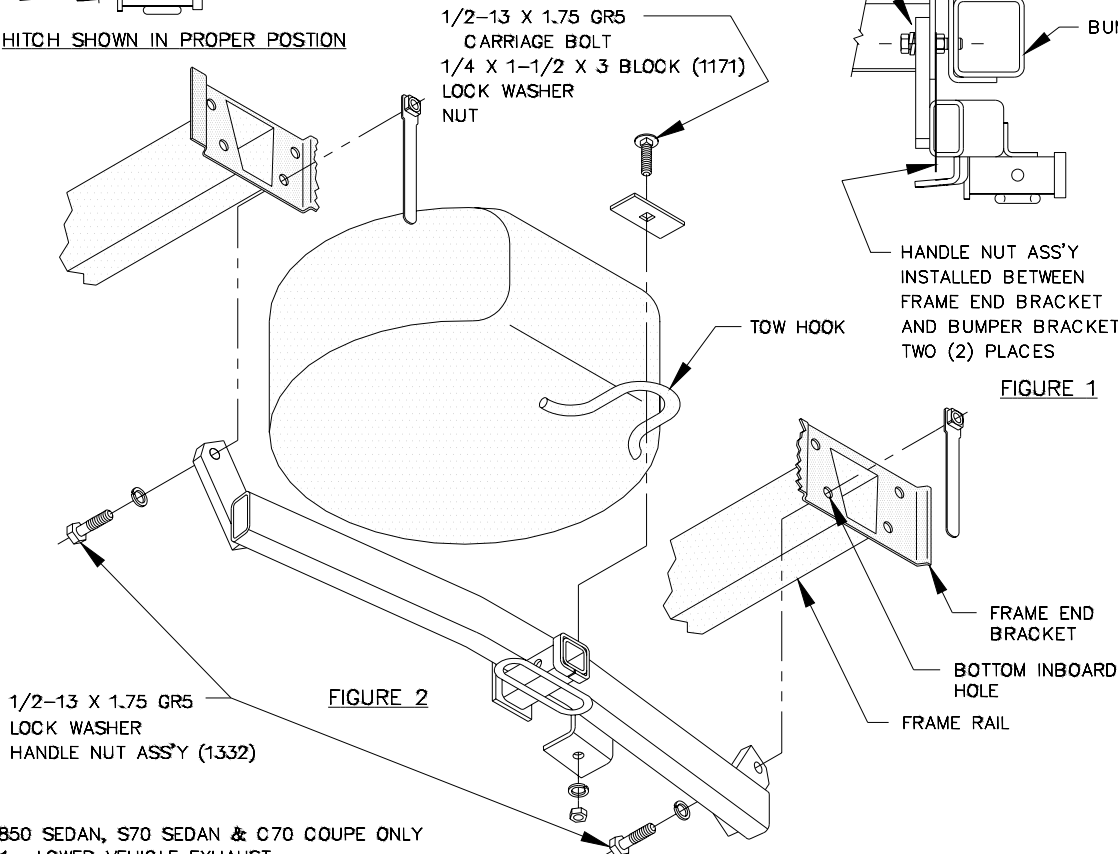

FIGURE 2
5. PARTIALLY INSTALL 1/2" BOLTS INTO THE HANDLE NUTS TO ALIGN THE HANDLE NUTS WITH BOTTOM INBOARD HOLES AS SHOWN IN FIGURE 2.
6. TIGHTEN THREE (3) BUMPER BRACKET BOLTS, ON EACH SIDE OF FRAME RAIL TO 38 LB.-FT., REMOVE 1/2" BOLTS USED FOR ALIGNMENT.
7. RAISE HITCH INTO POSITION AND INSTALL FASTENERS AS SHOWN IN FIGURE 2.